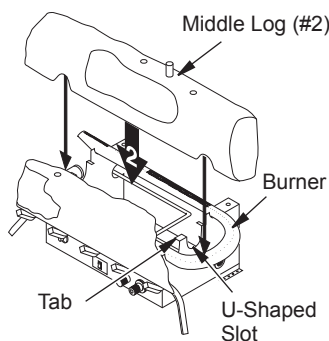

Figure 24 - Installing Middle Log (#2)
2. Place base of middle log (#2) in the U-shaped slots of grate base. The cutout on the right of middle log should fit over the burner (see Figure 24). Make sure front of middle log is resting on tabs of grate base.